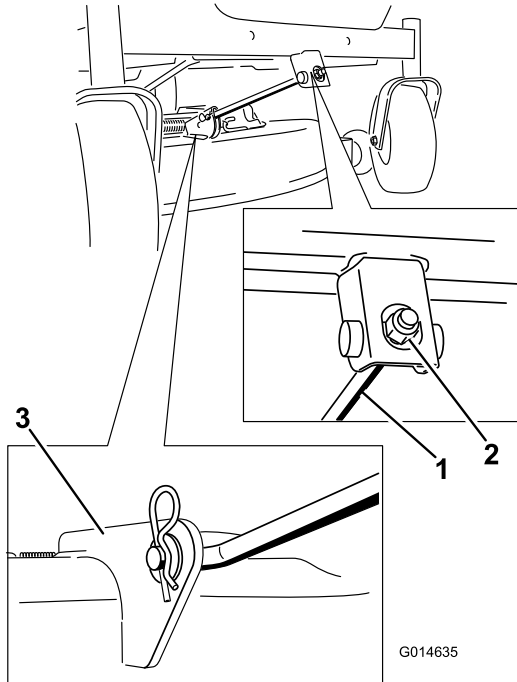

Figure 73
- Remove the hairpin cotter from the front support rod, and remove the rod from the deck bracket (Figure 73).
8. Attach the front support rod to the mower deck with the clevis pin and hairpin cotter (Figure 73).